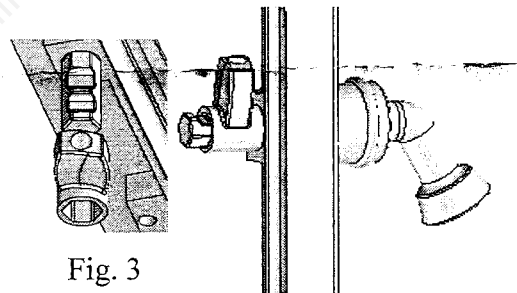

Fig. 3
6.) Align set screw hole in pawl with notches in handle shaft. Slide pawl onto shaft. The first notch for the large door and the second notch on the small door. (Fig. 3)